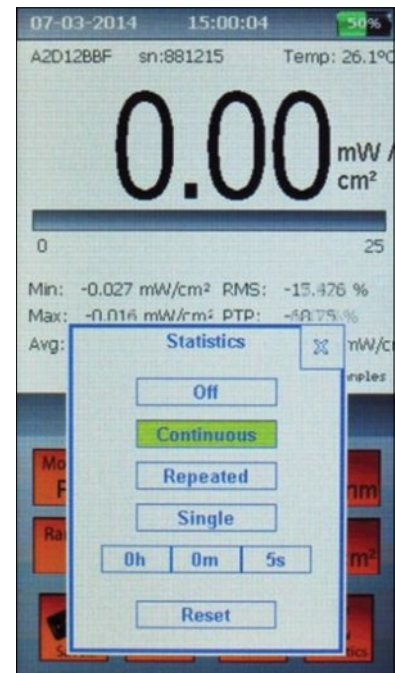

Figure 13
a) Touch the “Statistics” button on the screen of the Plus 2 and the statistics window will be displayed (figure 13).